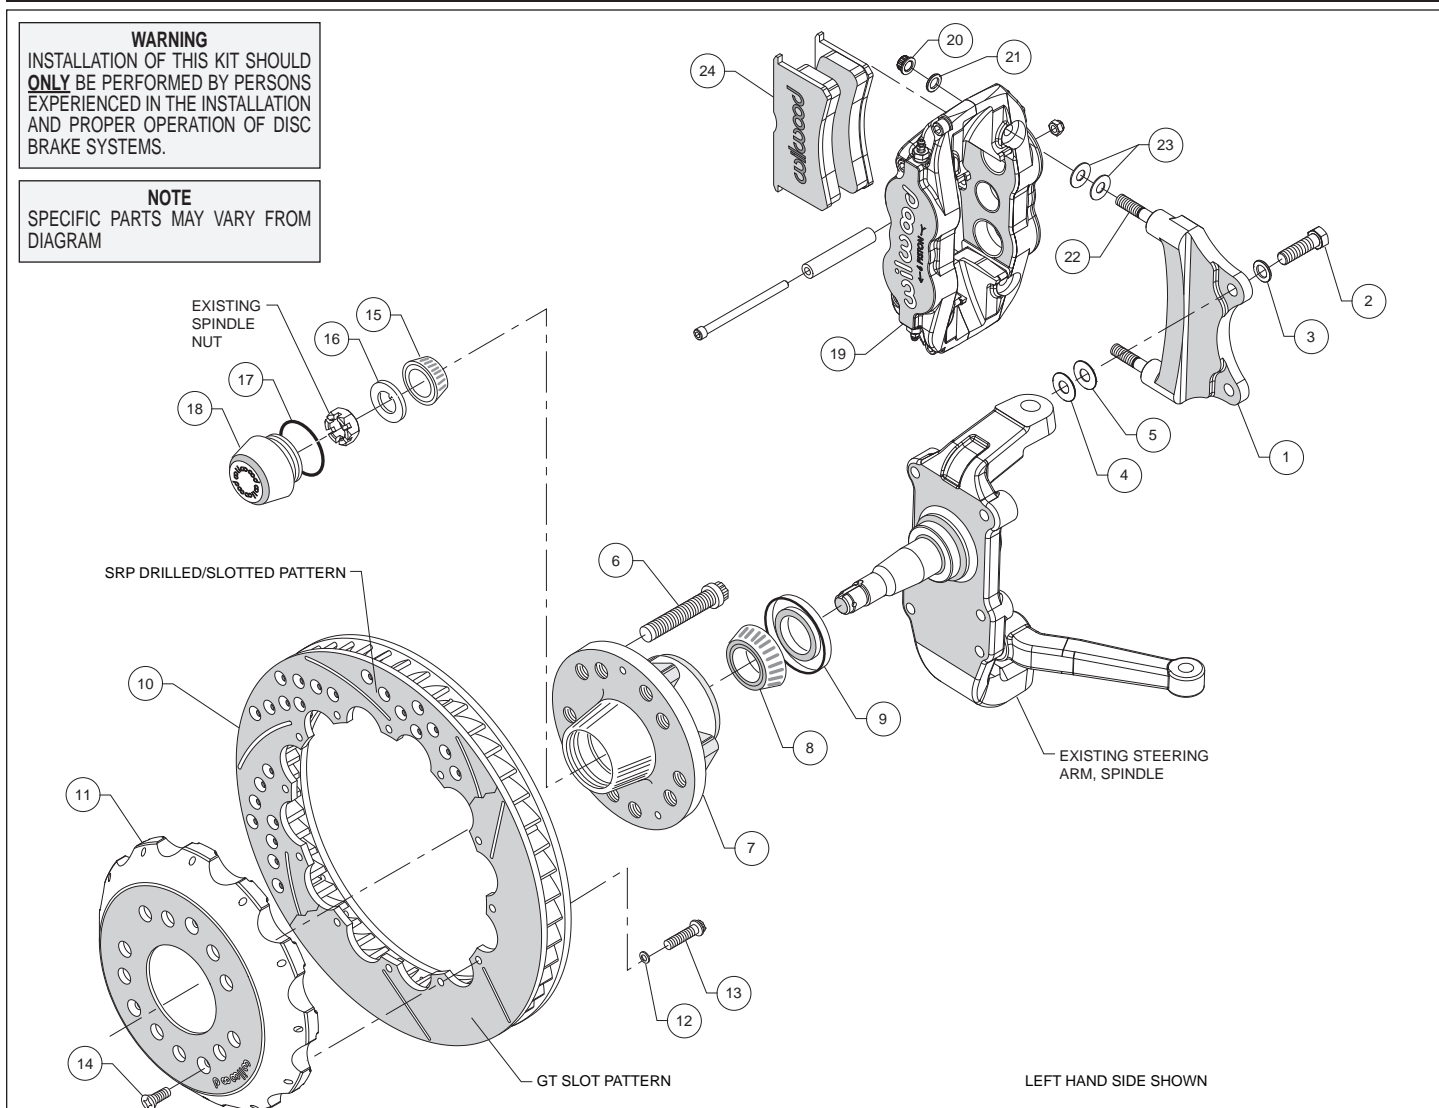
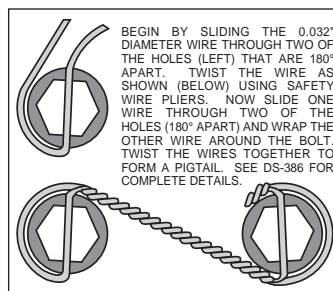

Figure 1. Typical Installation Configuration
Figure 3. Safety Wire Diagram
Assembly Instructions (numbers in parenthesis refer to the parts list on the preceding page, and Figure 1):
- The caliper mount bracket (1) should initially be installed with clean, dry threads on the mounting bolts. Orient the bracket as shown in Figure 1, and install using bolts (2) and washers (3). Initially place one each .016" thick shim (4) and .030" thick shim (5) on each bolt between the bracket and upright, Figure 1 and Photo 1. Temporarily tighten the mounting bolts. **NOTE: The bracket must fit squarely against the mount bosses on the upright.** Inspect for interference from casting irregularities, machining ridges, burrs, etc. Later, after the caliper alignment has been checked, the mount bolts will be secured using red *Loctite*[®] 271.
- Pack the large inner bearing cone (8) with high temperature disc brake bearing grease (available from your local auto parts store) and install into the backside of the hub (7), Photo 3.
- Install the grease seal (9) by pressing into the backside of the hub (7), flush with the end of the hub, Photo 3.
- Orient the rotor (10) and the hat (11) as shown in Figure 1 and Photo 4. Attach rotor to hat using bolts (13) and washers (12). Using an alternating sequence, apply red *Loctite*[®] 271 to the threads, and torque to 155 **in-lbs**. For an added measure of security, the bolts may be safety wired using standard 0.032 inch diameter stainless steel safety wire as shown in Figure 3. Refer to Wilwood's data sheet DS-386 (available at www.wilwood.com/Pdf/DataSheets/ds386.pdf) for complete safety wire installation instructions.
- Slide the hat/rotor assembly (10/11) onto the hub (7) taking care to align the small countersunk holes in the hat (11) with the small threaded holes in the hub. **NOTE:** The hat must fit flush against the hub face or excessive rotor run out may result. Install three flat head screws (14) through the small holes in the hat (11), Photo 6, and torque to 85 in-lb.
- NOTE:** This kit contains distinct right and left hand calipers that must be mounted in a specific direction, as described below. Lubricate the caliper mounting studs (22) with lightweight oil. Initially place two .035" thick shims (23) on each stud between the caliper and the bracket, as shown in Figure 1 and Photo 7. Mount the caliper (19) onto the bracket (1) using lock nuts (20) and washers (21), Figure 1. Ensure that the caliper is mounted so the largest pistons are at the rotor exit end of the caliper, in relation to the direction of rotor rotation. Temporarily tighten the lock nuts and view the rotor through the top opening of the caliper. The rotor should be centered in the caliper, Photo 8. If not, adjust by adding or subtracting shims (4 and/or 5) between the bracket and the upright. Always use the same amount of shims on each of the two mounting bolts. Once the caliper alignment is correct, remove the bracket mounting bolts one at a time, apply red *Loctite*[®] 271 to the threads, and torque to 55 ft-lb.